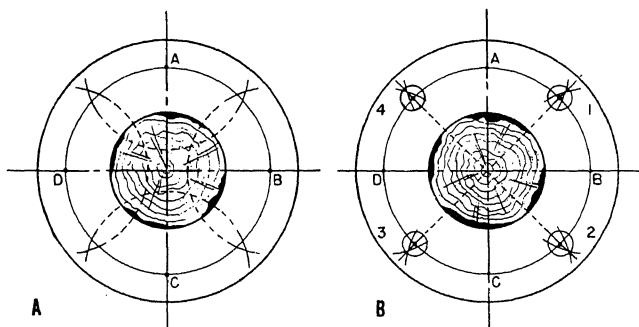

Figure 3-30.—Four-hole flange development.
FOUR-HOLE FLANGE.—Figure 3-30 shows the development for a 4-hole flange layout. Set your dividers for slightly more than half the distance of arc AB, and then scribe an intersecting arc across the pitch circle line from points A, B, C, and D, as shown in part A of figure 3-30. Next, draw a short radial line through the point of intersection of each pair of arcs as shown in part B. The points where these lines cross the pitch circle, (1), (2), (3), and (4), are the centers for the holes. To check the layout for accuracy, set your divider for the pitch between any two adjacent holes and step around the pitch circle. If the holes are not evenly spaced, find your error and correct it. When the layout is correct, follow the center-punching and witness-marking procedure described for the 6-hole flange layout.